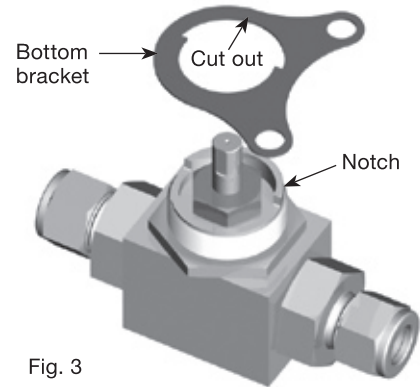

Fig. 3
3. Place the **bottom bracket** on the valve aligning the **cut out** in the bracket with the **notch** on the valve. Fig. 3.